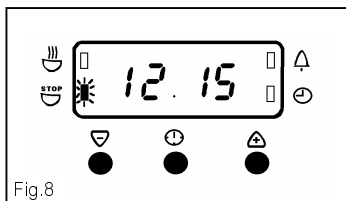

Fig.8
- v) To set the 'End Time'. Press the Selector Control button until the 'End Time' indicator neon flashes. Press the increase control button (+) until the required stop time is displayed, e.g. 12.15 p.m. as Fig. 8. If necessary depress the decrease control (-) until the correct time interval is achieved.